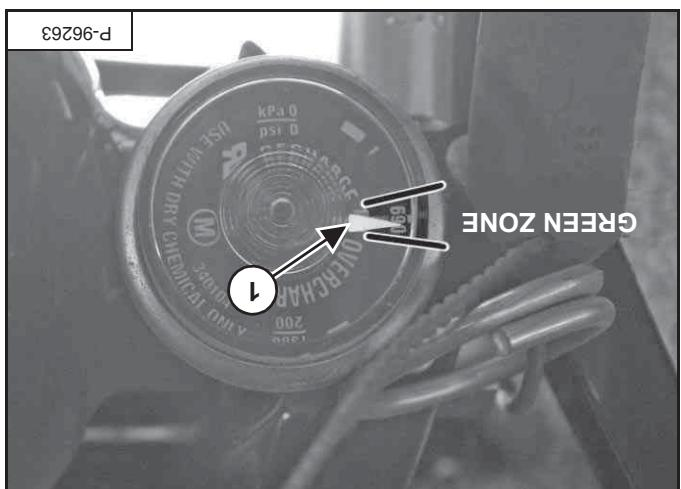

Figure 23
Check the fire extinguisher gauge [Figure 23].
The indicator (item 1) [Figure 23] must be in the GREEN ZONE. If the indicator is out of the GREEN ZONE, replace or recharge extinguisher.